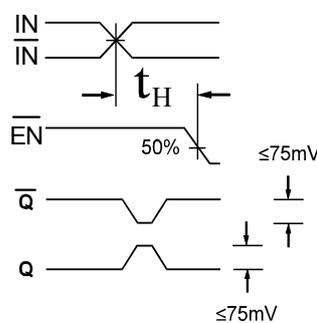

Figure 2. Hold Time
- The hold time is the minimum time that $\overline{\text{EN}}$ must remain asserted after a negative going IN or a positive going $\overline{\text{IN}}$ to prevent an output response greater than $\pm 75\text{mV}$ to that $\text{IN}/\overline{\text{IN}}$ transition (see Figure 2).